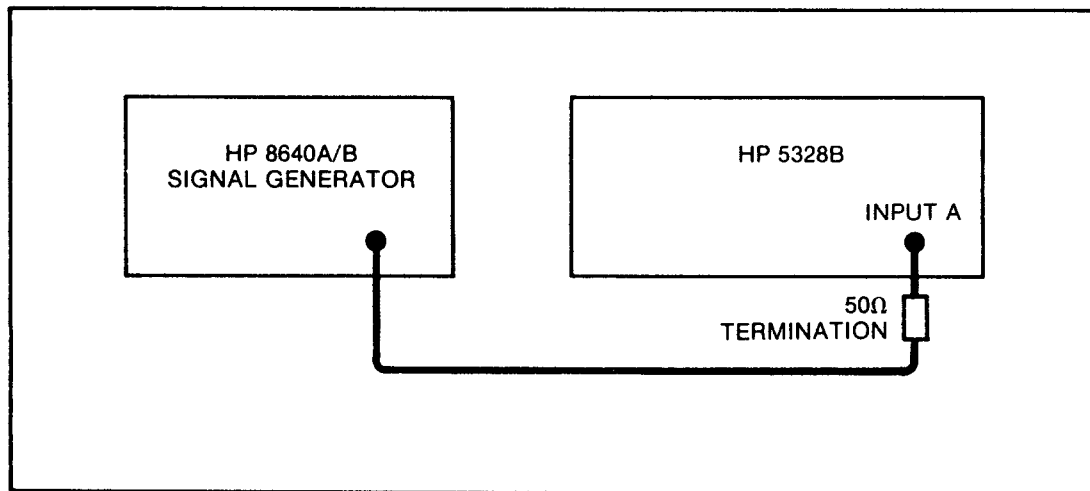

Figure 4-3. Period — Test Setup
- a. Set up equipment for this test as shown in Figure 4-3.
- a. Set up the equipment for this test as shown in *Figure 4-3*.